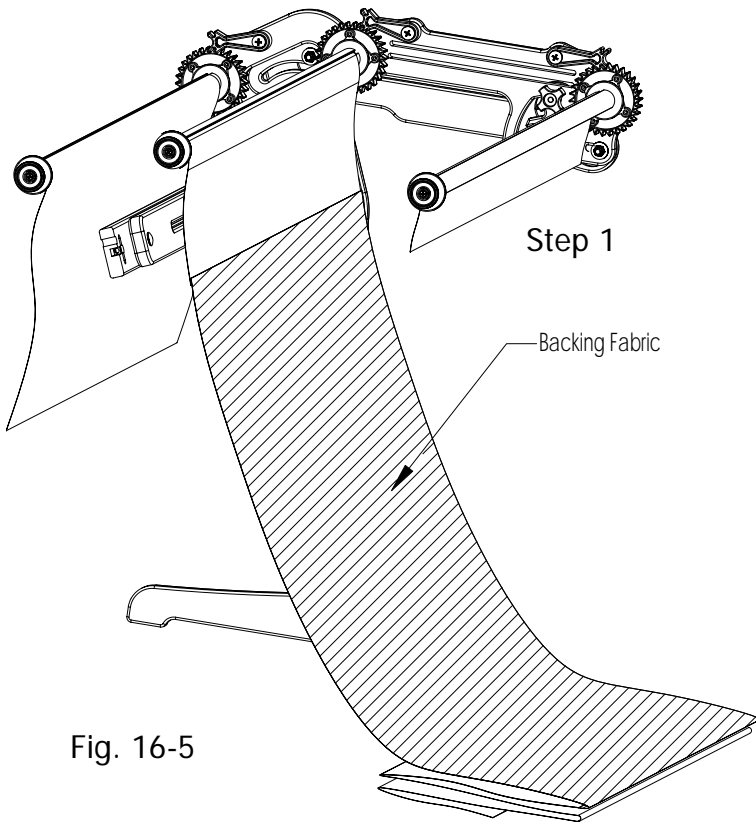

Fig. 16-5
Lay the fabric naturally and evenly along the straight line of the cloth leader. Do not stretch the fabric from side to side. Start pinning the fabric onto the leader along the line that has been stitched or marked, as shown in Fig. 16.5.
1. Backing to middle rail (Fig. 16-5 pg. 21)